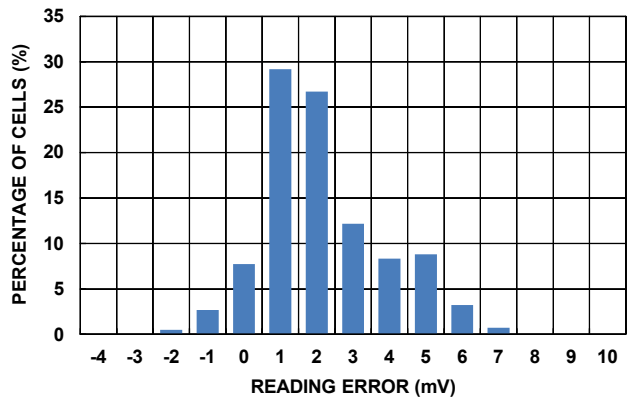

FIGURE 8. CELL READING ERROR FROM EVALUATION BOARDS AT CELL VOLTAGE FROM 2.6V TO 4.0V, AND -20°C TO +60°C HISTOGRAM
10. Stresses may be induced in the ISL78610 during soldering or other high temperature events that affect measurement accuracy. Initial accuracy does not include effects due to this. See Figure 8 for cell reading accuracy obtained after soldering to Intersil evaluation boards. When soldering the ISL78610 to a customized circuit board with a layout or construction significantly differing from the Intersil evaluation board, design verification tests should be applied to determine drift due to soldering and over lifetime.